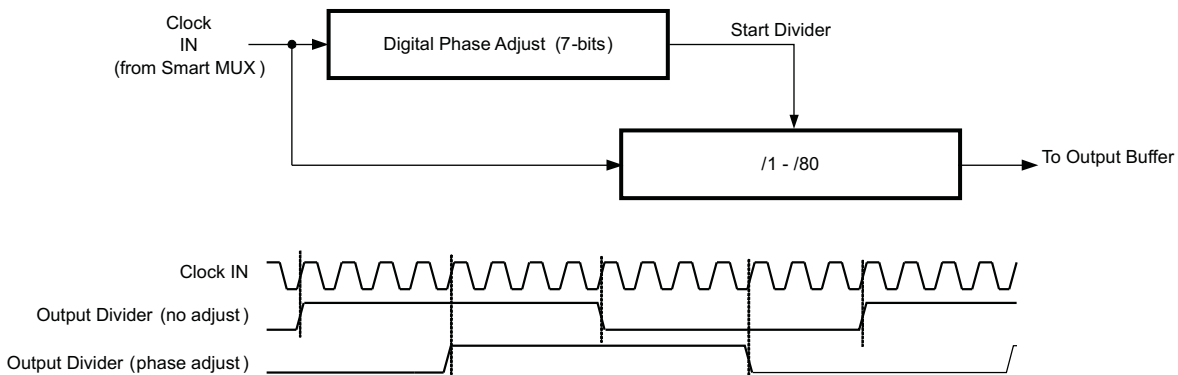

Figure 31. CDCE62005 Phase Adjust
Figure 31 provides an overview of the Digital Phase Adjust feature. The output divider includes a coarse phase adjust that shifts the divided clock signal that drives the output buffer. Essentially, the Digital Phase Adjust timer delays when the output divider starts dividing; thereby shifting the phase of the output clock. The phase adjust resolution is a function of the divide function. Coarse phase adjust parameters include:
- Number of Phase Delay Steps – the number of phase delay steps available is equal to the divide ratio selected. For example, if a Divide by 4 is selected, then the Digital Phase Adjust can be programmed to select when the output divider changes state based upon selecting one of the four counts on the input. Figure 31 shows an example of divide by 16 in which there are 16 rising edges of Clock IN at which the output divider changes state (this particular example shows the fourth edge shifting the output by one fourth of the period of the output).